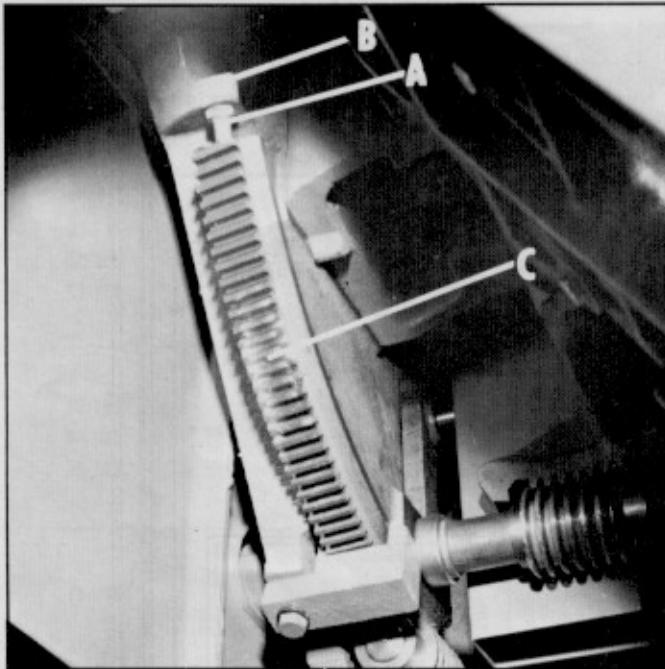

Fig. 14
3. If an adjustment is necessary, loosen locknut on adjusting screw (A) Fig. 14, and turn adjusting screw (A) clockwise. Rotate the tilting handwheel until you are certain the blade is at 90 degrees to the table. Then turn adjusting screw (A) against the lug (B) on the front trunnion and tighten locknut.
5. Tilt the saw blade to 45 degrees and check to see if the blade is at 45 degrees to the table using a combination square. Adjustment to the 45 degree stop is made in the same manner as the 90 degree adjustment except the adjusting screw is on the other end of the rack (C) Fig. 14.